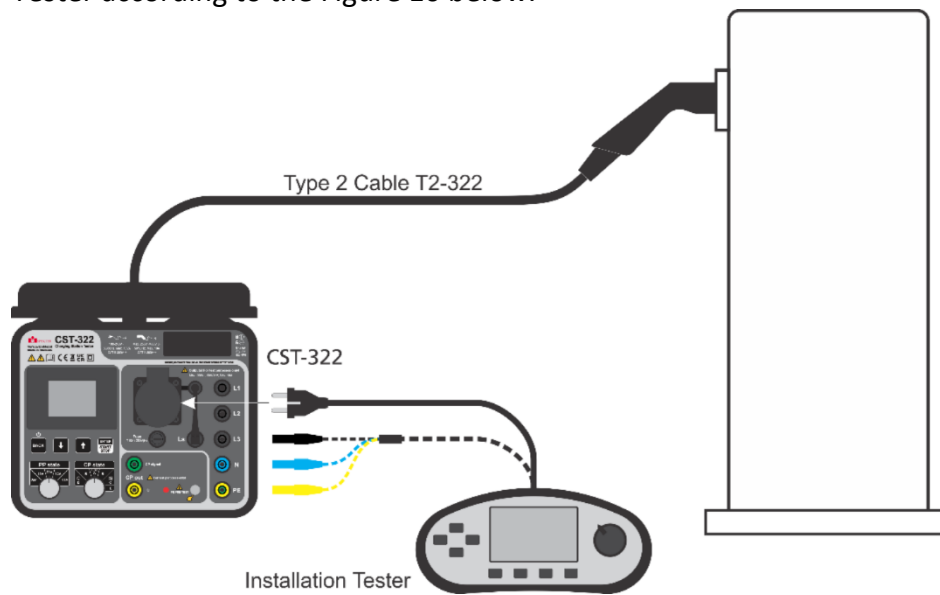

Figure 10: Connection of an Installation Tester to the CST-322 Tester
- Connect an Installation Tester to the schuko socket or 4 mm test sockets of the CST-322 Tester according to the Figure 10 below.